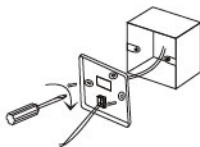

Fig.2
3. As shown in Fig.2, fix M5/32 * 25/32in(M4X20mm) screws provided together with the back cover on box, then pass lead wires through the back cover.